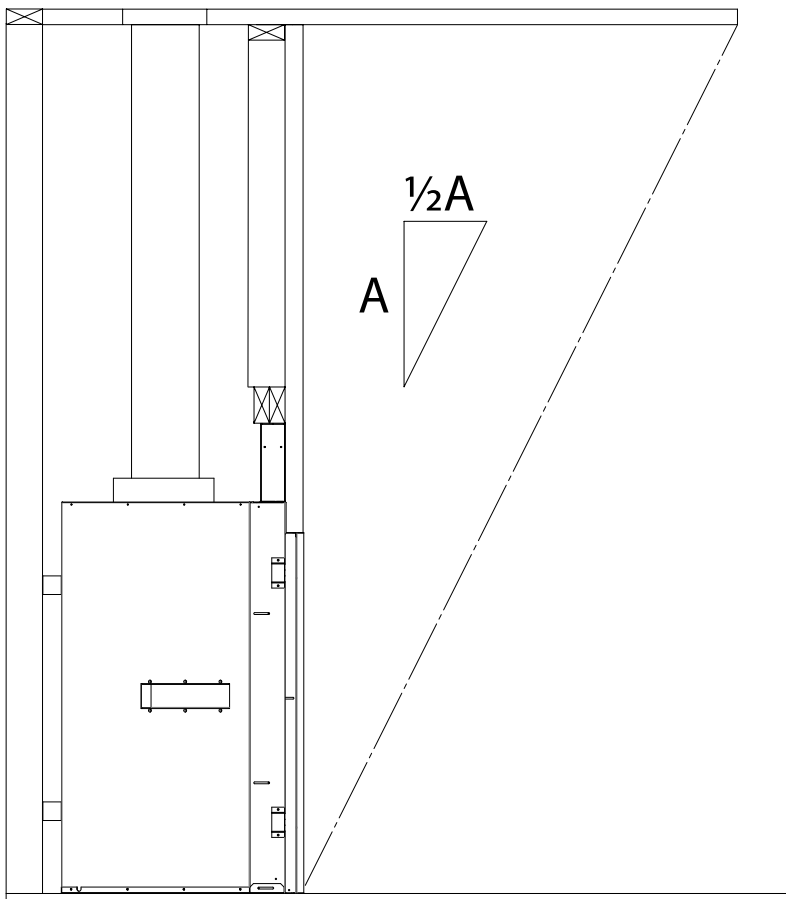

Figure 53: Overhang Depth Requirements
- The fireplace must be protected by an overhang with a depth that is at least equal to half of its height from the base of the fireplace, as shown in Figure 53.